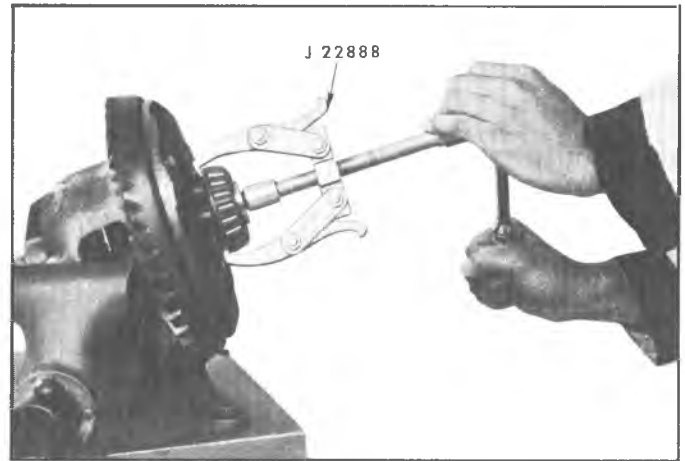

Fig. 3C—Removing Differential Bearing
1. Place Puller J-22888 over differential bearing using Adapter Plug J-8107-4 in side gear bore. Tighten puller screw to remove bearing as in Figure 3C.